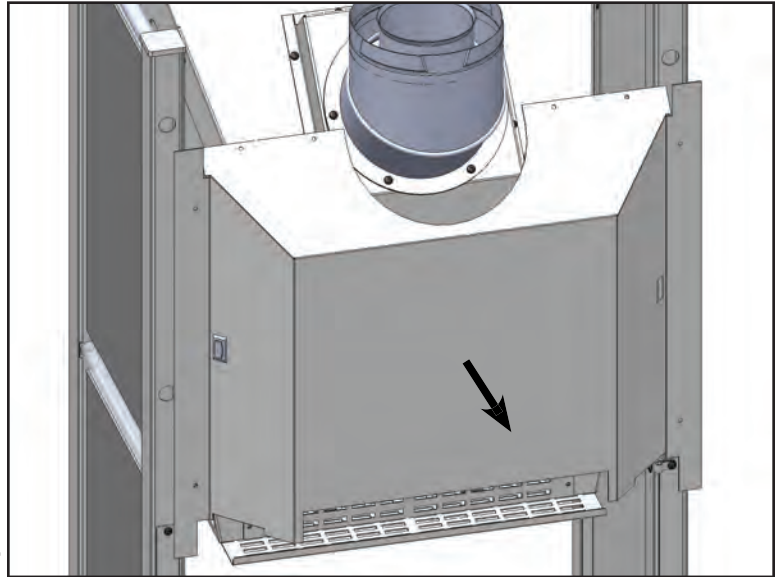

Fig.17
5. Rotate outer rear shield and place below such that the connected wires are not compromised. (Fig.17)